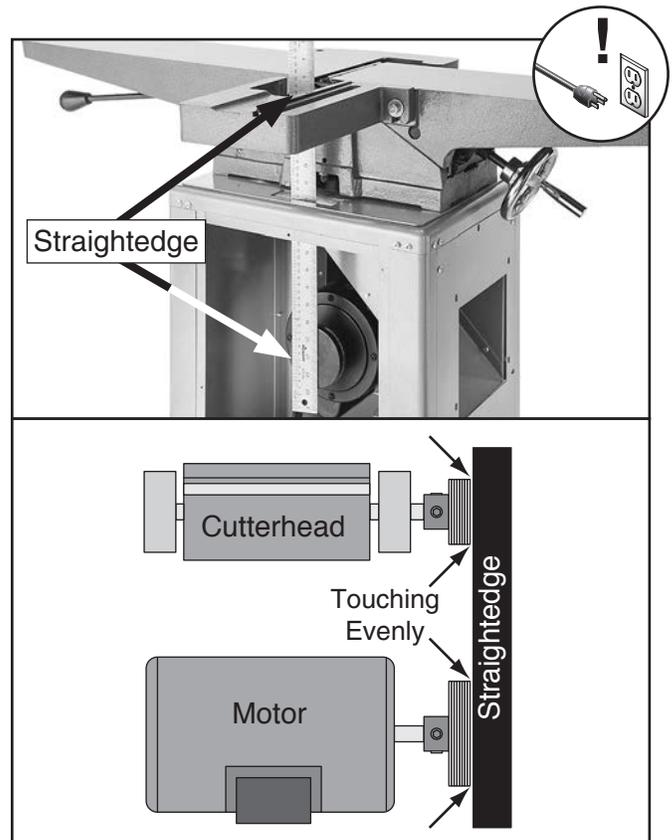

Figure 59. Example of checking pulley alignment.
3. Place straightedge against pulleys to check their alignment (see **Figure 59**).